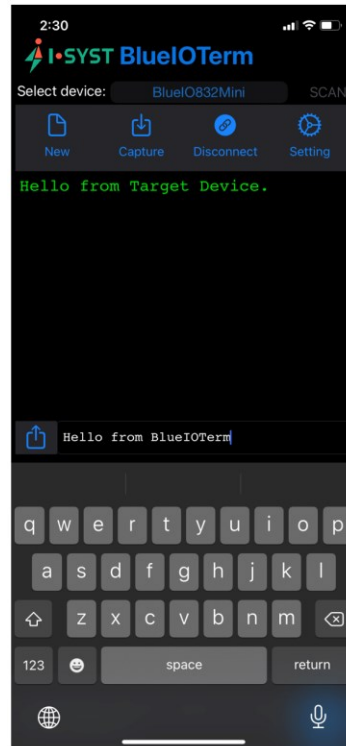

Fig. 10. Send and receive message in BlueIOTerm.
- (iv) Tap "Connect" to pair BlueIO832-Mini with the app. The display terminal on the app shows the current UART parameters used by BlueIO832-Mini (Figs. 8 and 9). Now, BlueIOTerm is ready for the user to send messages to and/or receiving messages from the UART interface connect with BlueIO832-Mini (Fig. 10).